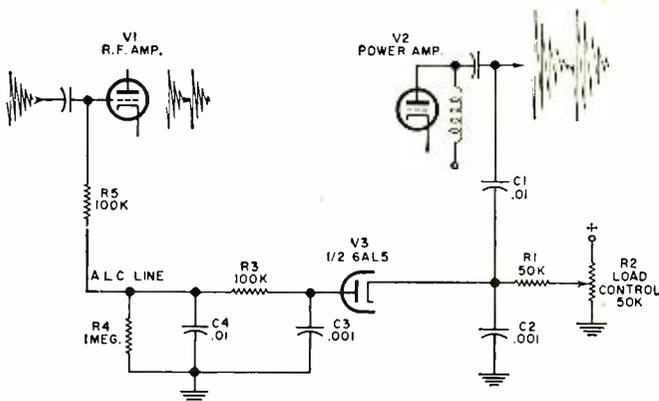

Fig. 4. Automatic load control systems are often used in SSB transmitters. This is similar in operation to receiver a.g.c.
**Single-ended vacuum-tube type.** In single-sideband communications transmitters, automatic load control (ALC) is used, as shown in Fig. 4. Similar to receiver a.g.c., ALC consists of a feedback loop to an earlier r.f. stage. The power amplifier r.f. output is developed across capacitive voltage divider C1 and C2. C2's portion is rectified by V3 producing negative d.c. filtered by C3-R3. Charge-discharge time constants are established by R3-R4 and C3-C4, and the resultant d.c. becomes grid bias for V1. "Load Control" R2 establishes threshold for the ALC by biasing V3 cathode and no control voltage appears until the power amplifier's envelope peaks exceed this value. Beyond this point, V1 gain decreases to compensate for rising audio, maintaining envelope peaks at consistent level.